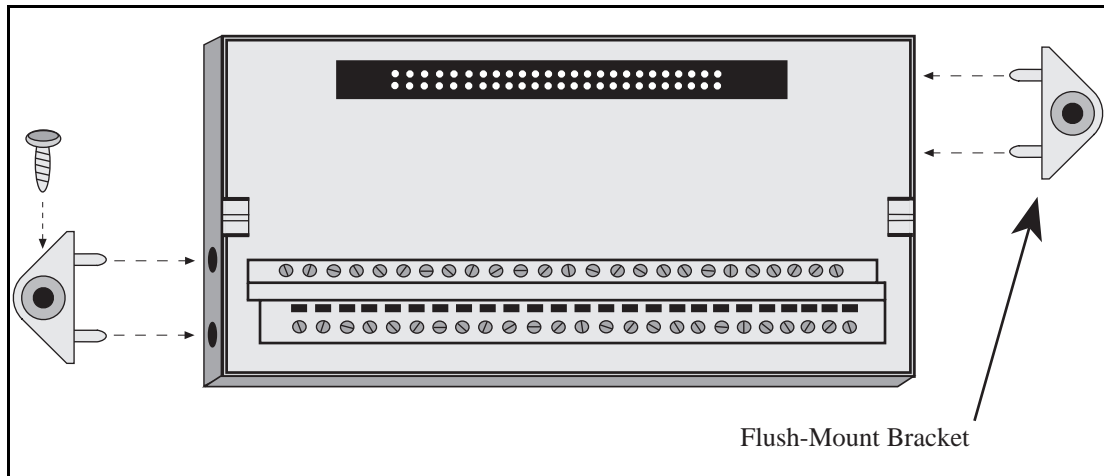

Figure 3. Inserting the Flush-Mount Brackets
- For flush mounting, insert the flush-mount brackets into the connector block base as shown in Figure 3.